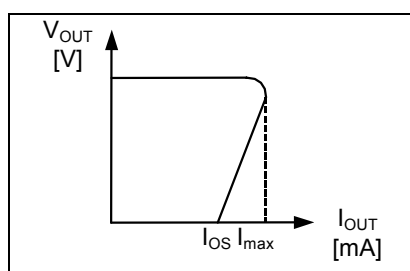

Figure 18
The S-87x Series has a built-in short-circuit protection circuit to protect the element from break caused by a large current in case of a short circuit. The output short current is internally limited to approx. 70 mA. Short-circuit protection circuit has three kinds characteristics according to input voltage (VIN) as shown in **Figure 18 to 20**.
- (1) At the time of voltage detection, the voltage regulator is shutdown and load current is cut. Therefore, VIN pin voltage increases by $\Delta V_{IN} = I_{IN} \times R_{IN}$, where the current flowing into R_{IN} is set to I_{IN} . Hence, if ΔV_{IN} exceeds hysteresis width (V_{HYS}), oscillation starts immediately after detection and continues. It is necessary to set ΔV_{IN} less than V_{HYS} .
- (2) At the time of voltage release, the voltage regulator is powered on and load current flows. Therefore, if ΔV_{IN} exceeds hysteresis width (V_{HYS}), oscillation starts immediately after release and continues. It is necessary to set ΔV_{IN} less than V_{HYS} . Also at the time of voltage release, the rush current to charge output capacitor (C_{OUT}) flows. Hence, oscillation momentarily starts until the output of regulator (V_{OUT}) rises high enough even though ΔV_{IN} is set less than V_{HYS} . But Short-circuit protection circuit controls the rush current less than I_{MAX} on Figure 18 to 20. If this momentary oscillation is a problem in your application, setting R_{IN} less than V_{HYS}/I_{MAX} prevents oscillation.